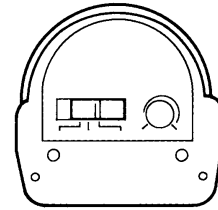

Fig. 3
- Step 1:** Move slide switch on bottom of the sensor to "TEST". Set sensitivity knob to medium (halfway) (Fig. 3).